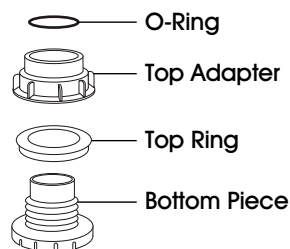

Figure 3
3. Unscrew the top adapter from the bottom assembly. Remove O-ring from assembly. (See Figure 3)